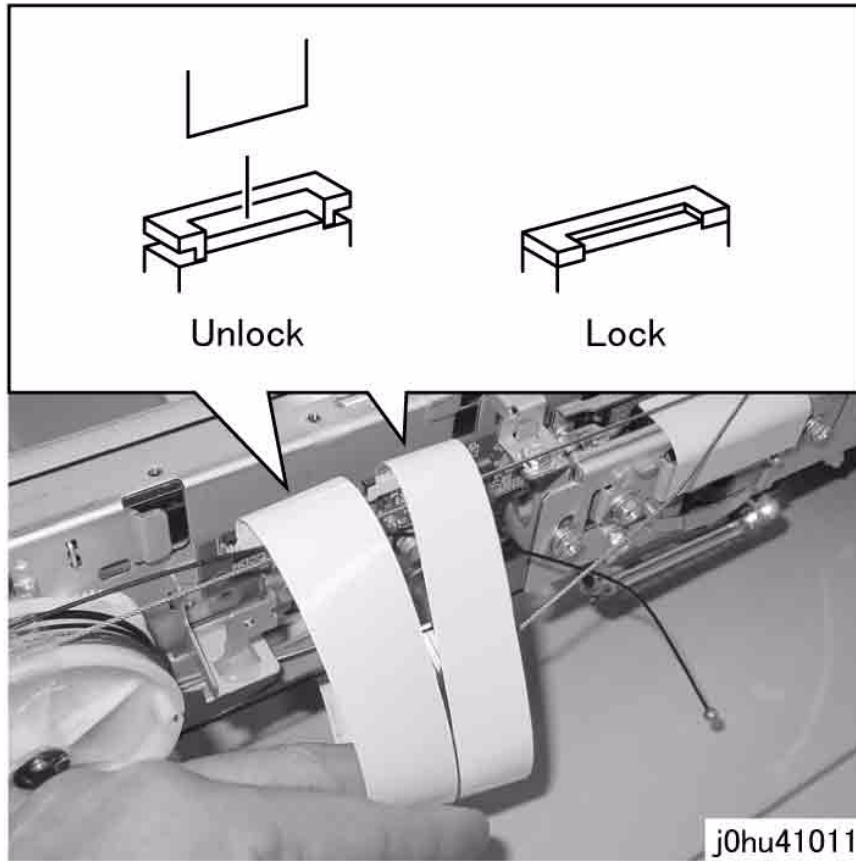

Figure 11 Disconnect Print Cable Connectors
14. Disconnect the Flexible Print Cable connectors (2) (Figure 11).